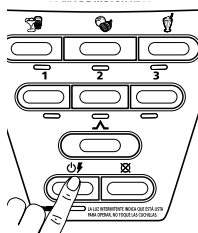

Fig. 19
1. Press the ⚡ (Fig. 19) power button to turn the product on. The power light will blink, meaning the product is active and ready to use.
7. Press the ⚡ (Fig. 19) power button to turn the product off.